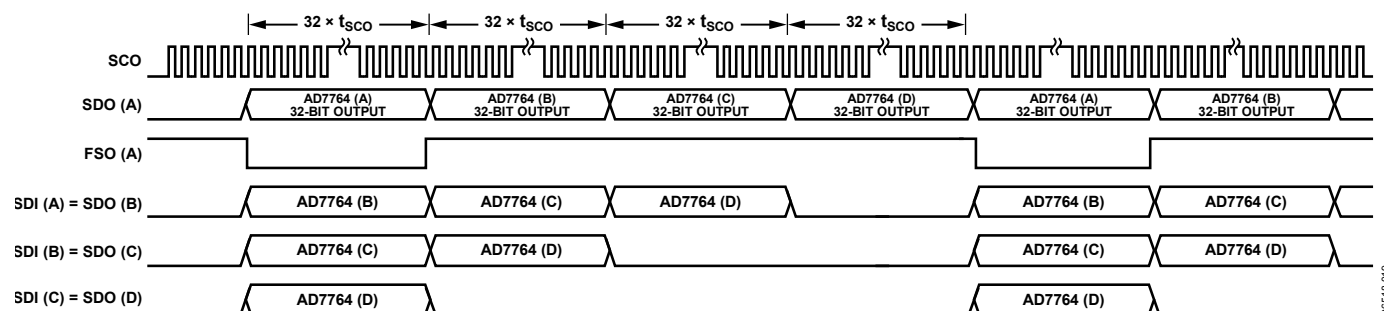

Figure 48. Daisy-Chain Mode, Data Read Timing Diagram (for the Daisy-Chain Configuration Shown in Figure 47)
After a SYNC pulse is applied to all devices, the filter settling time must pass before the FILTER_SETTLE bit is asserted, indicating valid conversion data at the output of the chain of devices. As shown in Figure 48, the first conversion result is output from the device labeled AD7764 (A).